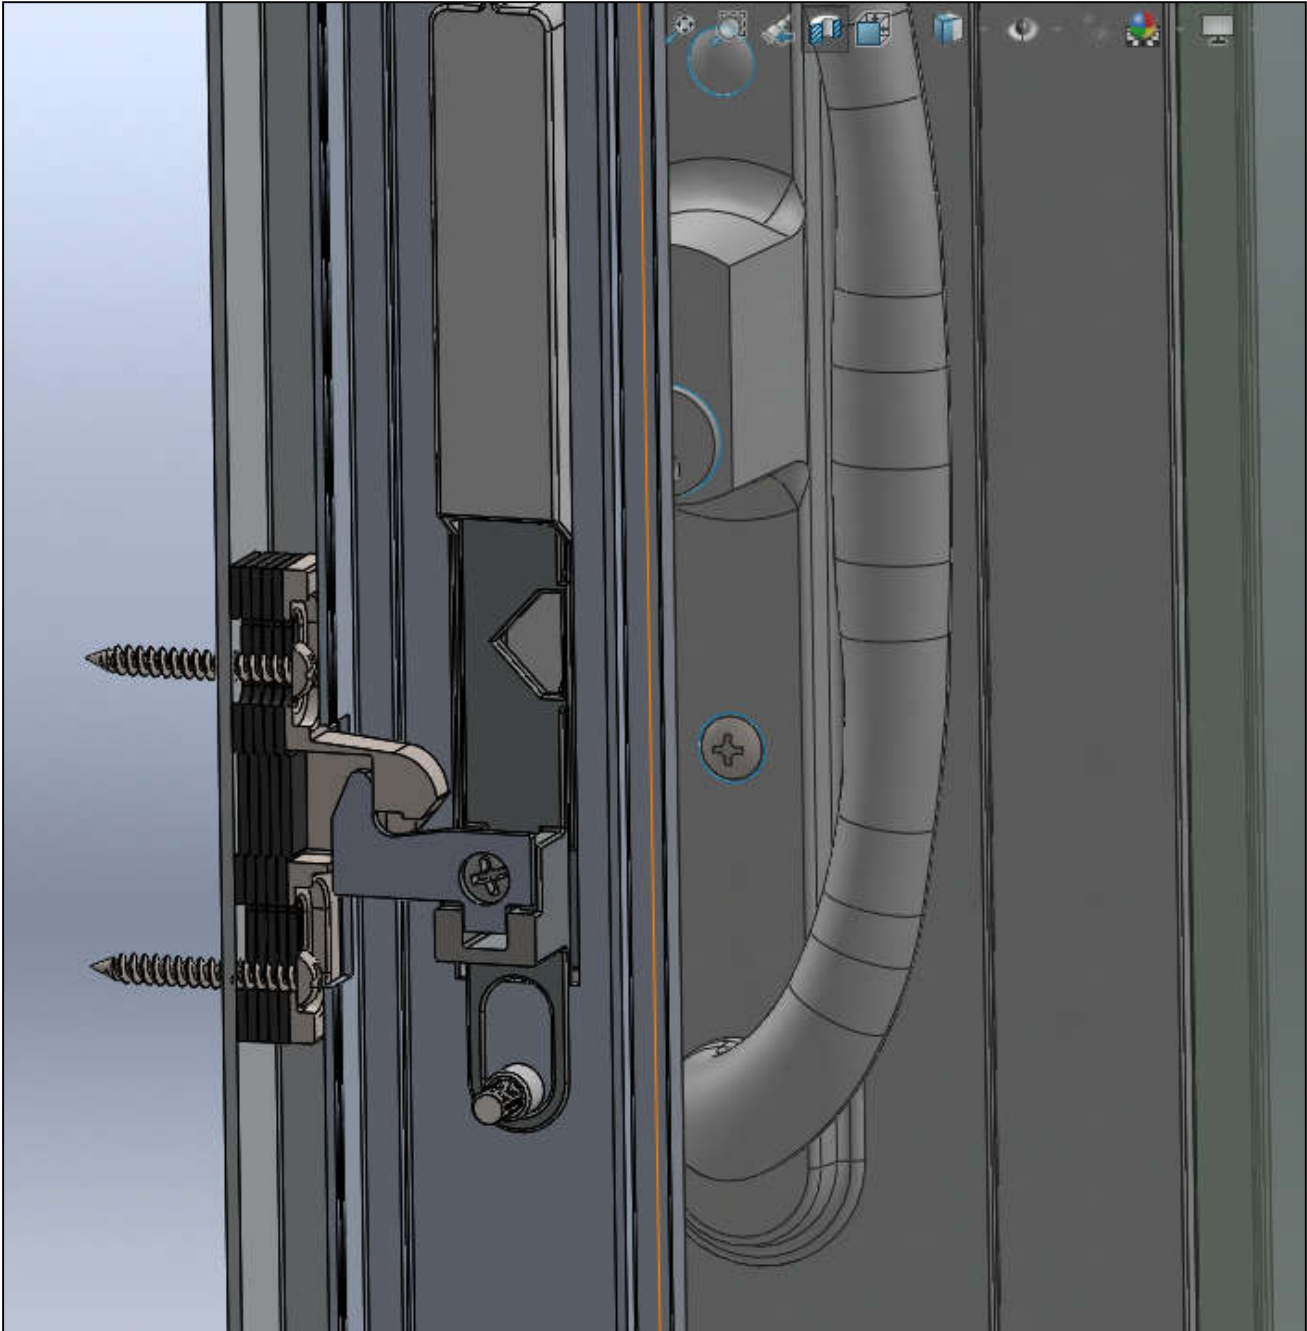

Figure 26
4) When screens are properly adjusted, latch keepers may be installed and raised or lowered to make proper contact with latch P-cam. Keeper shims are provided as shown in Fig. 26.